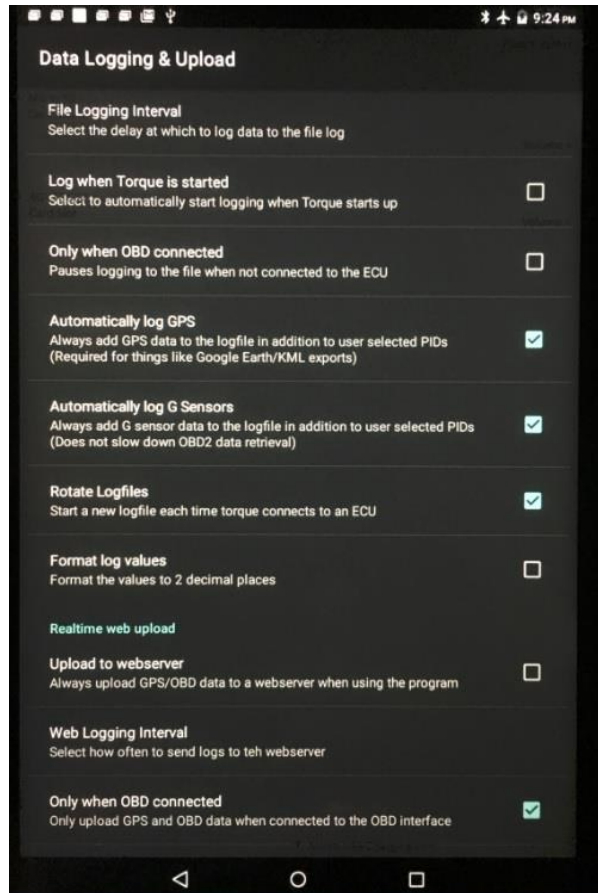

Figure 9, Data Logging & Upload Settings
9. Close the settings screen by clicking the back arrow < at the bottom of the android device (see Figure 9).